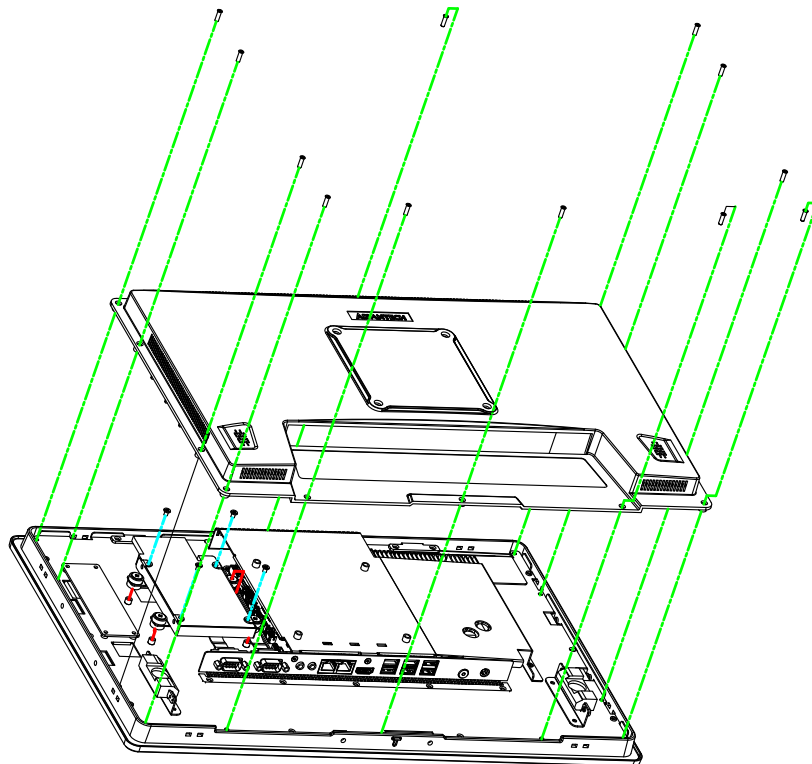

Figure 3.1 Primary 2.5" HDD Installation
2. Place the HDD in the metal bracket, and tighten the screws (see Figure 3.1).